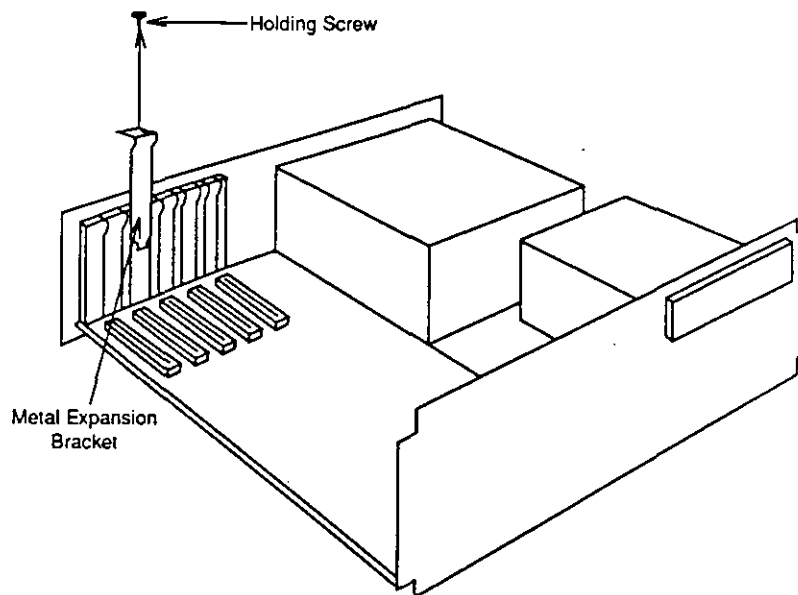

Figure 2.17
3. Remove a metal expansion bracket as shown in Figure 2.17 below.